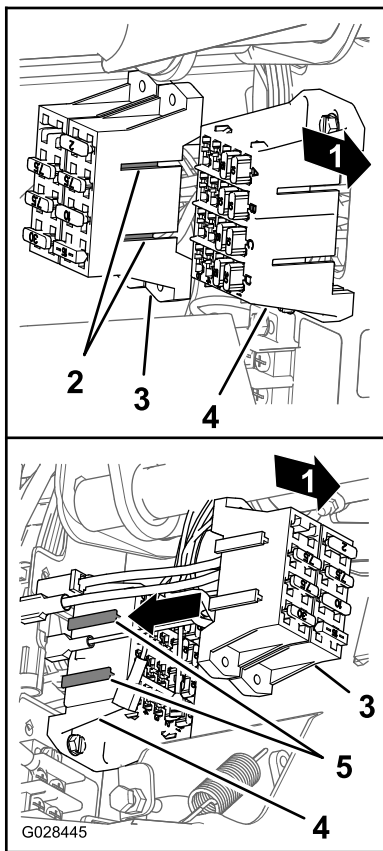

Figure 26
- Align the T-fittings on the of the fuse block of the sprayer to the T-slots of the fuse block for the machine and slide the sprayer fuse block into the slots until the fuse block is fully seated (Figure 26).